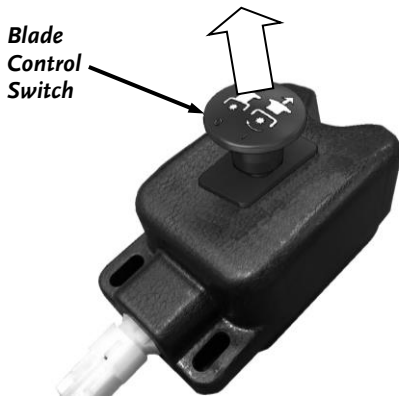

Figure 16a (Pro and Pro XL)
1. Engage the Blades by pulling up on the Blade Control Switch (**Figure 16a or 16b**).
1. Push down on the Blade Control Switch to stop the Blades (**Figure 16a or 16b**).